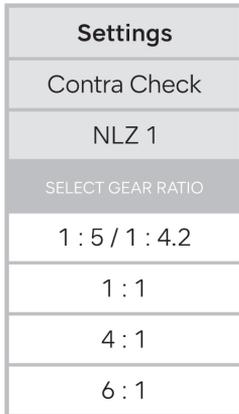

Figure 22.
3. Select the gear ratio (Figure 22).